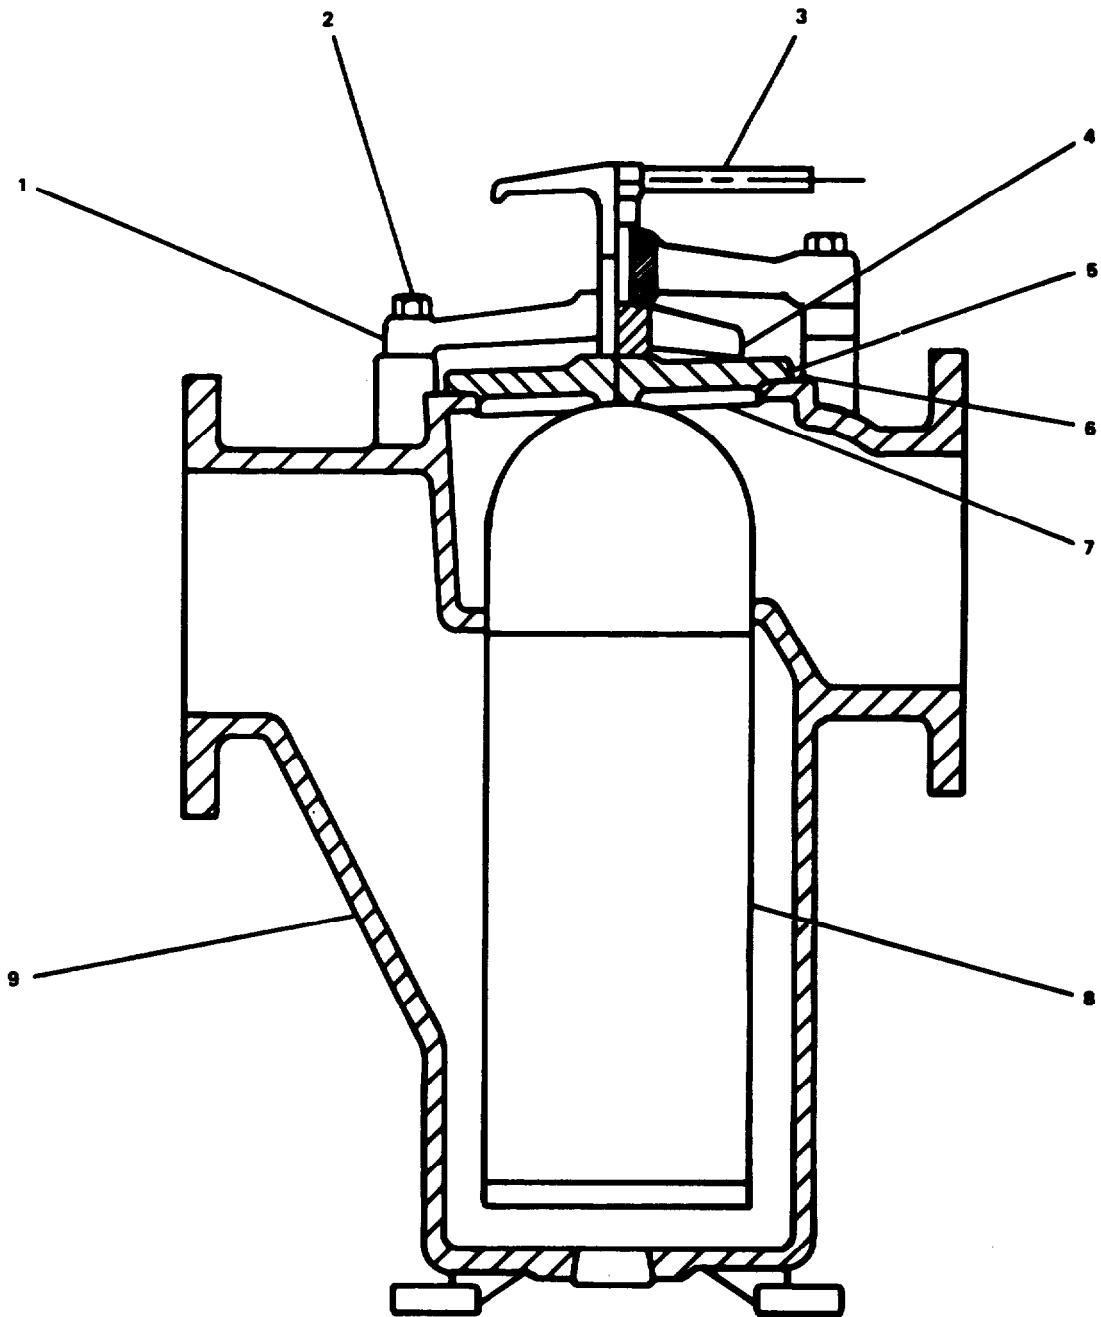

FIGURE 2-239. 5-Inch Simplex Sediment Strainer, Repair.
- a. Remove plain studs (2, FIGURE 2-239) from body (9).
- b. Remove yoke screw (3), yoke (1), and access cover (4).
- a. Install sediment strainer element (8, FIGURE 2-239) in body (9).
- b. Install spacer (7).
- c. Install preformed packing (6) and cover (5).
- d. Install access cover (4), yoke (1), and yoke screw (3).
- e. Install plain studs (2).